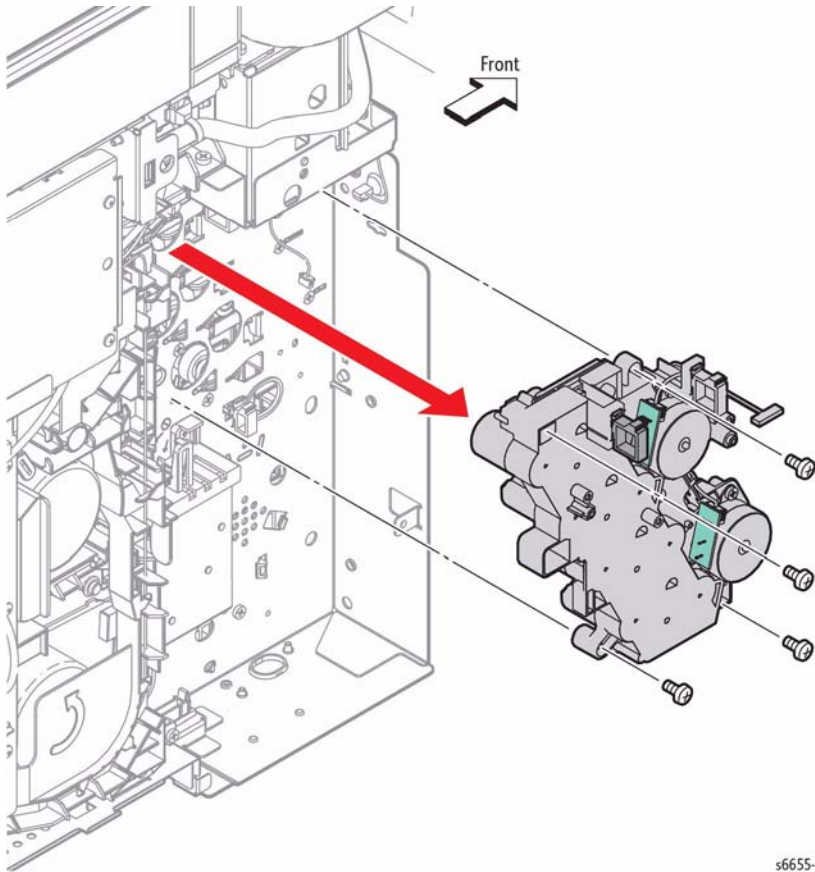

Figure 3 Remove the Upper Dispenser Motor Assembly
11. Refer to Figure 3 to locate and remove the four screws (silver, 6 mm) that attach the Upper Dispenser Motor Assembly to the printer and remove the assembly.